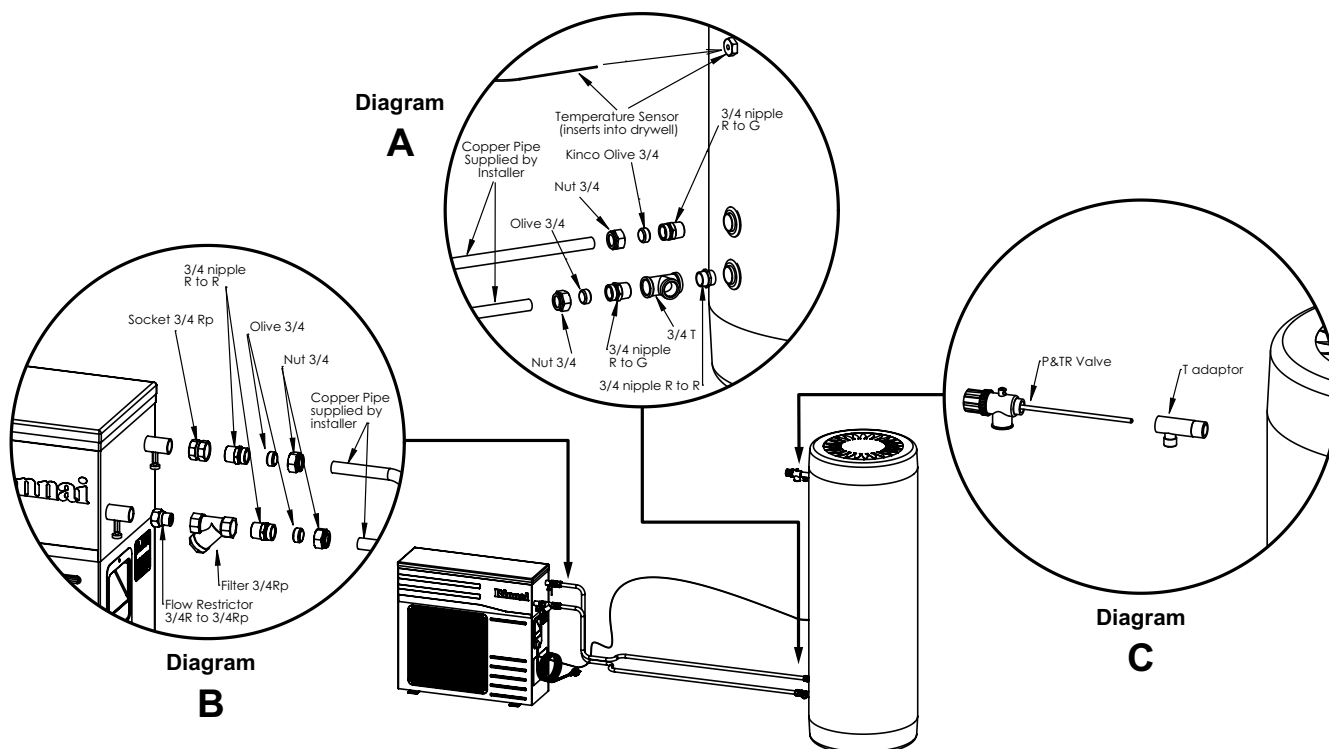
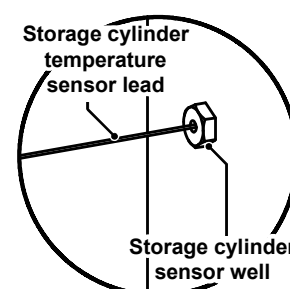

Fig. 2
Fig. 4
- Connect the P&TR valve to the uppermost fitting of the storage cylinder (refer to Diagram C of Fig. 2).
- Refer to Diagrams A & B of Fig. 2.
- Connect cold water supply to the inlet T on the storage tank (refer to Diagram A of Fig. 2 on page 13). Connect PLV and ECV if needed.
- Connect the pipe work supplying hot water to the premises to the hot water discharge outlet of the T adaptor (refer to Diagram C of Fig. 2 on page 13).
- The temperature sensor lead from the heat pump needs to be placed in the sensor well on the storage cylinder (refer to Diagram A of Fig. 2 on page 13 and Fig. 4).
- Has the installation been completed as shown in Fig. 2 on page 13 and finished neatly?